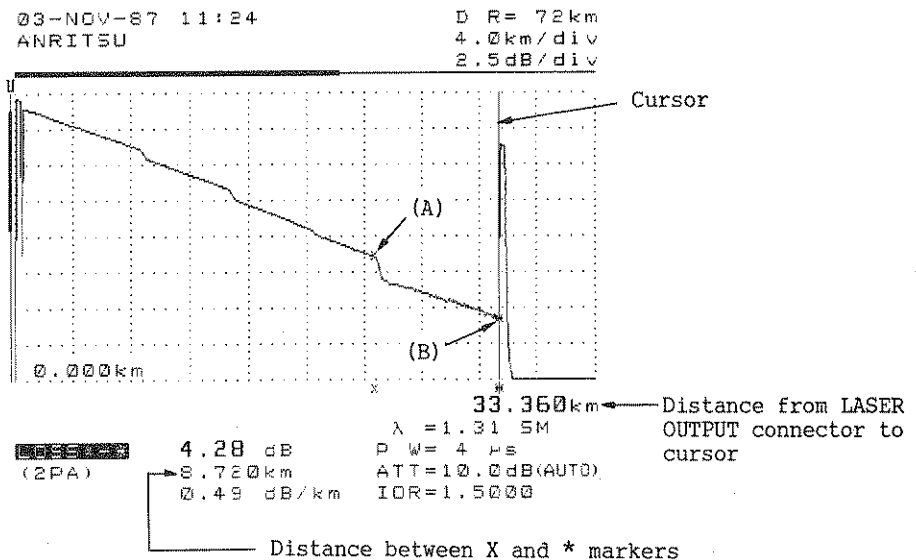

Fig. 3-30 Two-point Distance Measurement
3	Set the X (Fig. 3-30 (A)) and * (Fig. 3-30 (B)) markers to the points to be measured.
4	The result of the distance measurement between the two markers is displayed at the lower-middle side of the CRT (Fig. 3-30).